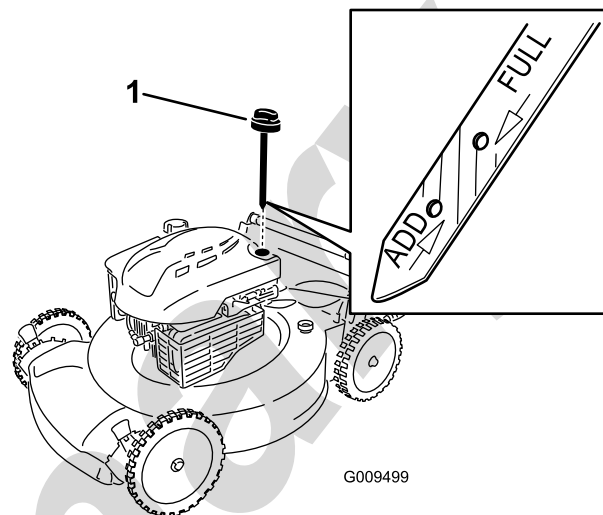

Figure 4
2. Remove the dipstick (Figure 4) and pour about 3/4 of the crankcase capacity of oil into the oil-fill tube.
5. Remove the dipstick and read the oil level on the dipstick; refer to Figure 4.